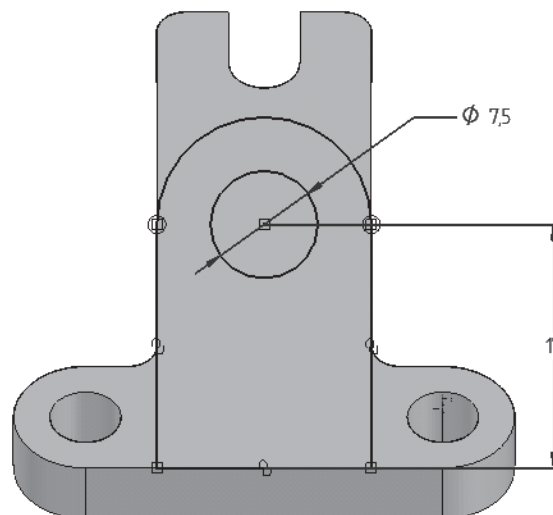

Figure 4-52 *Profile for the second feature*
- Define a new reference plane at an angle of 45-degree to the right edge of the base feature and use it to draw the profile for the second feature, refer to Figure 4-52.
9. Trim and extend the projected entities using the sketching tools and then draw a tangent arc to complete the profile of the base feature, refer to Figure 4-52.
10. Add a circle to the profile and then add the required dimensions to the profile, as shown in Figure 4-52.